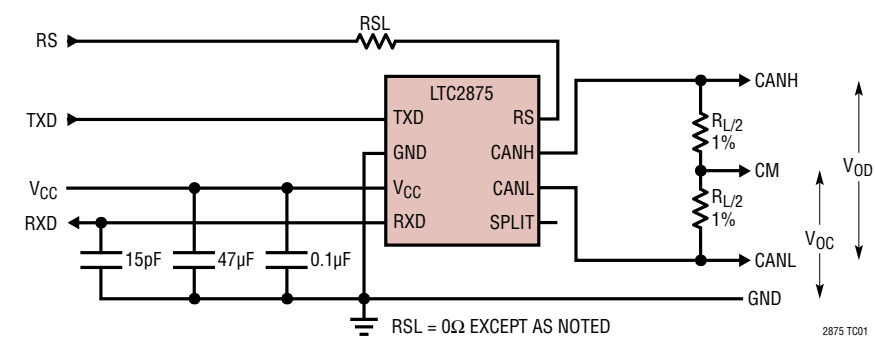

Figure 1. All Electrical Characteristic Measurements
**ELECTRICAL CHARACTERISTICS** The ● denotes the specifications which apply over the full operating temperature range, otherwise specifications are at  $T_A = 25^\circ\text{C}$ .  $V_{CC} = 3.3\text{V}$  or  $5\text{V}$ , Figure 1 applies with  $R_L = 60\Omega$ ,  $R_S = 0\Omega$ , TYP values at  $V_{CC} = 5\text{V}$  unless otherwise noted. (Note 2)
**SWITCHING CHARACTERISTICS** The ● denotes the specifications which apply over the full operating temperature range, otherwise specifications are at  $T_A = 25^\circ\text{C}$ .  $V_{CC} = 3.3\text{V}$  or  $5\text{V}$ , Figure 1 applies with  $R_L = 60\Omega$ ,  $C_L = 100\text{pF}$ ,  $R_{SL} = 0\Omega$ ,  $R_S = 0\Omega$ , TYP values at  $V_{CC} = 5\text{V}$  unless otherwise noted. (Note 2)